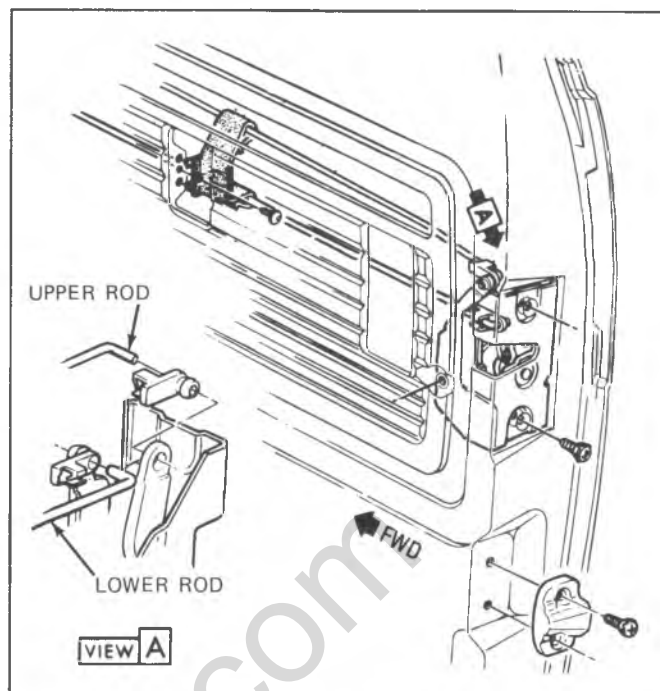

Fig. 2D-123--Sliding Door Rear Latch
3. Disconnect rear latch rods from front latch assembly, shown in figure 2D-121.